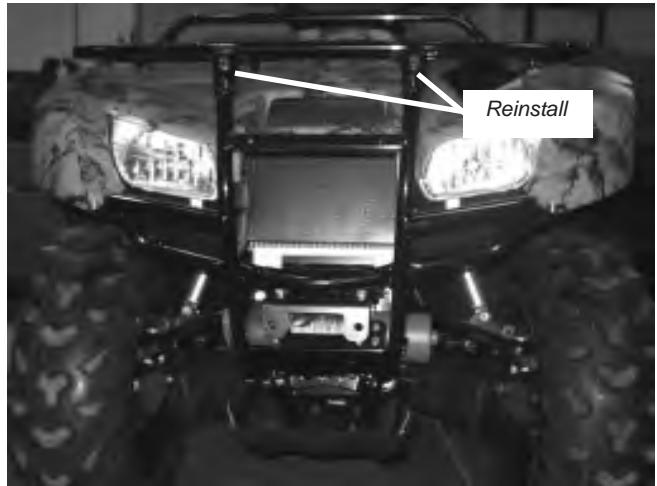

Figure 10 Place Bumper Back onto Vehicle
10. Place front bumper and loosely positioned winch assembly back onto the vehicle frame, figure 10. Reinstall the two top bumper bolts that were removed in step 5. Do not tighten at this time.